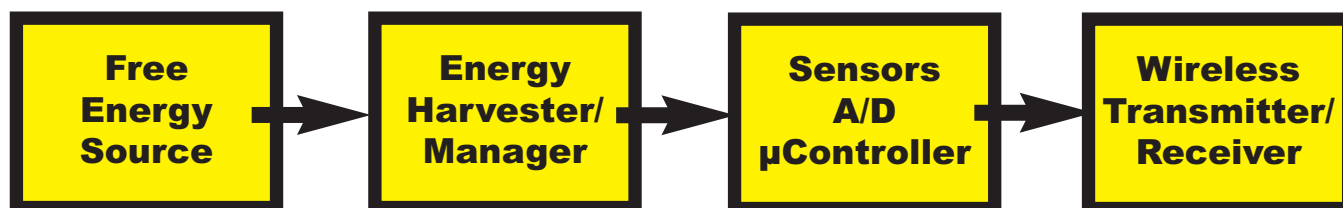

Figure 1: The main blocks of a typical energy harvesting system or wireless sensor node
A typical energy harvesting configuration or wireless sensor node is comprised of four blocks, see **Figure 1**. These are: (1) an ambient energy source; (2) a power conversion component to power the rest of the node; (3) a sensing component that links the node to the physical world and a computing component consisting of a microprocessor or microcontroller that processes measurement data and stores them in memory and (4) a communication component consisting of a short range radio for wireless communication with neighbouring nodes and the outside world.